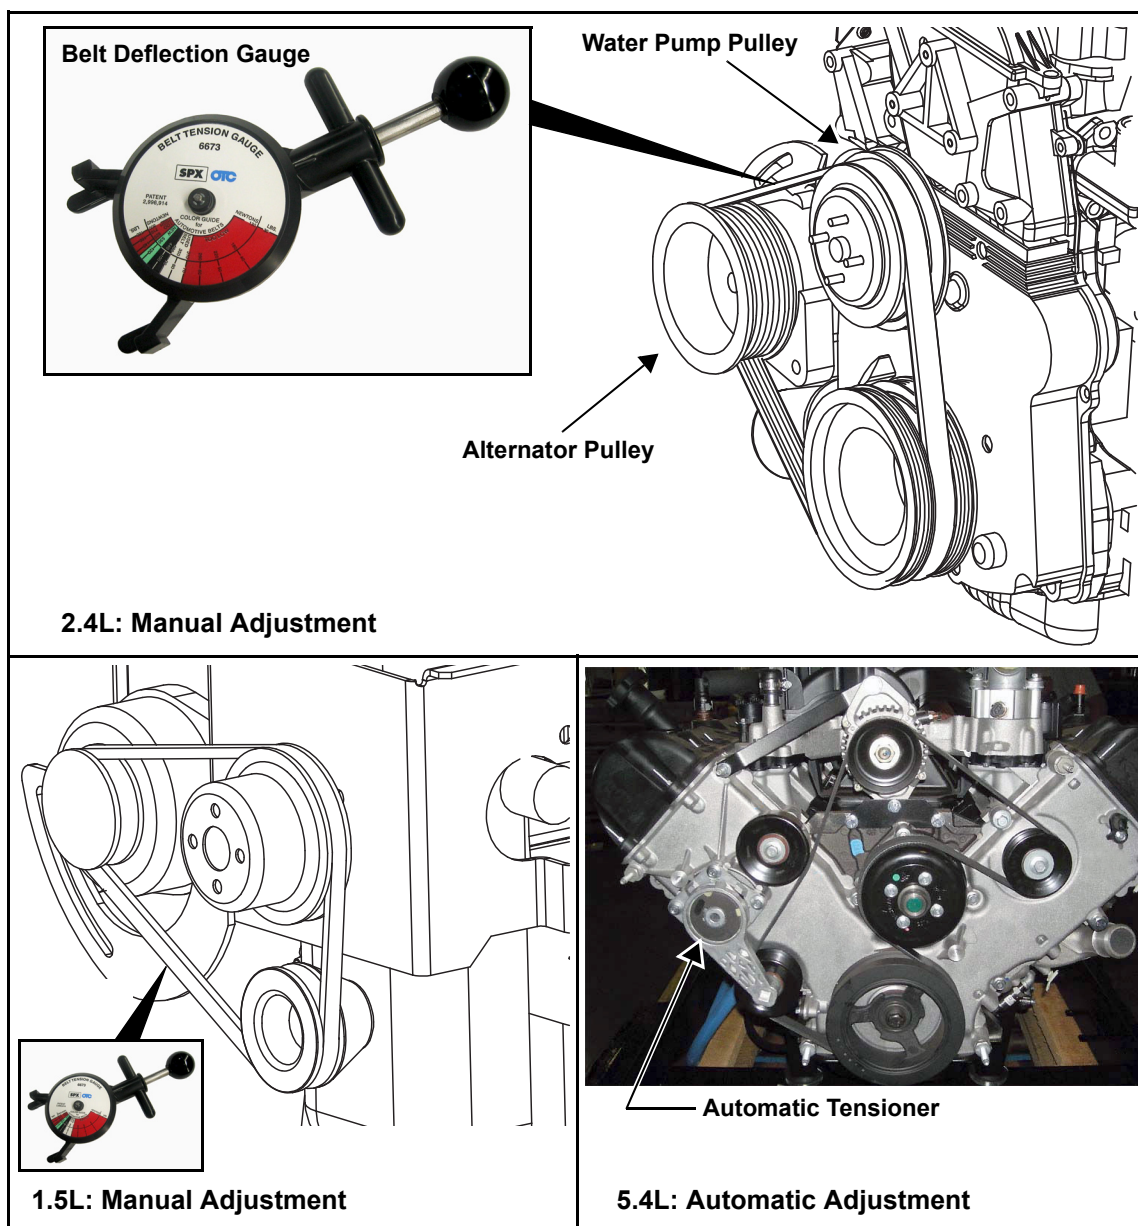

Figure 5-12. Check Accessory/Drive Belt Deflection
- Using a suitable gauge, apply 22 lbs (10 kgf) force midway between the water pump and alternator pulleys. See Figure 5-12